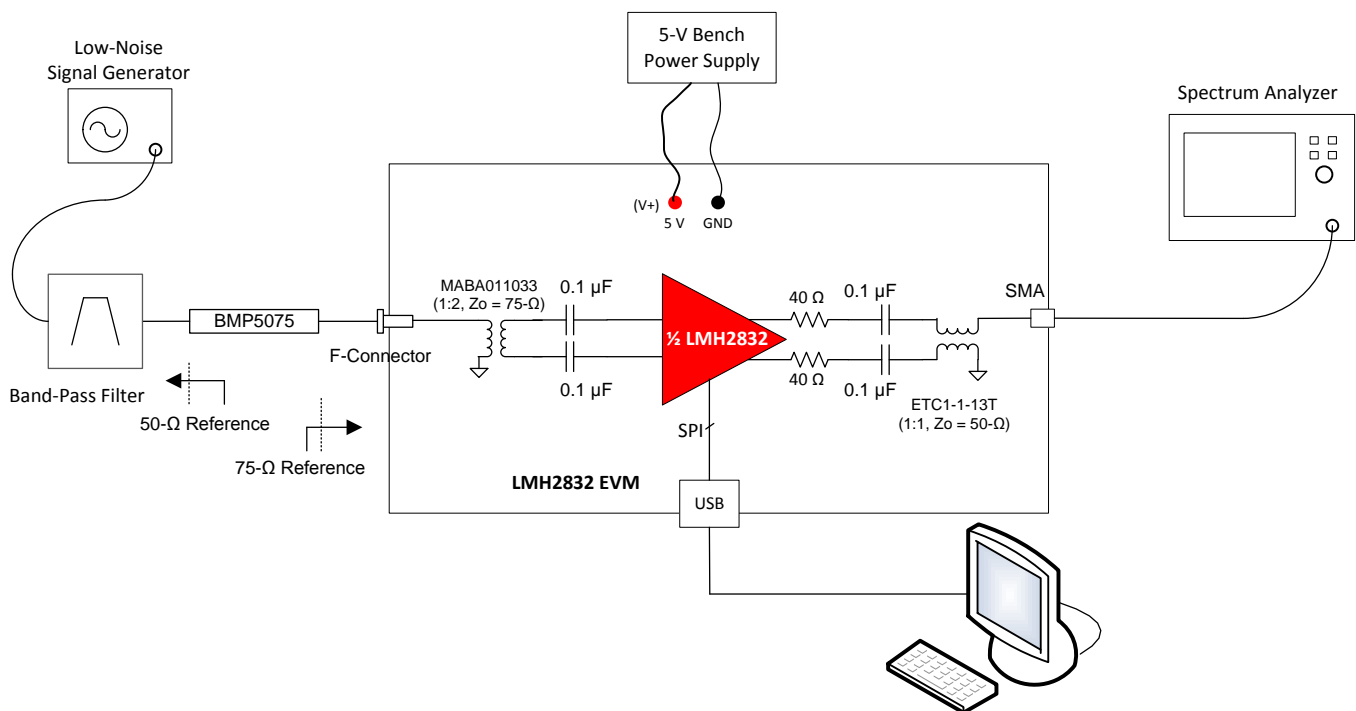

Figure 2. LMH2832 Evaluation Board Setup Block Diagram
Figure 2 illustrates the LMH2832 evaluation board setup block diagram.
2. While the supplies are turned OFF, connect the evaluation board power supply pins (V+ and GND) to the bench power supply of 5 V and GND, as shown in Figure 2, using a low-noise bench power supply.
1. The LMH2832EVM-75 evaluation board provides the customer flexibility in testing at different input frequencies using on-board input and output baluns as shown in Figure 2.
2. While connecting a 50- Ω signal source to the LMH2832EVM-75 evaluation board inputs with 75- Ω F-connectors, an impedance converter pad like the BMP-5075 is required for proper interface as shown in Figure 2.
1. The LMH2832EVM-75 evaluation board has SMA connectors at the output and can be directly connected to 50- Ω test equipment as shown in Figure 2.